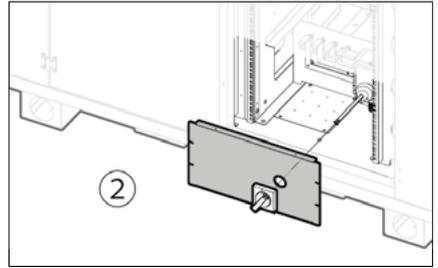

Fig. 8.4 - Front panel removal
3. Unscrew the 4x M6 screws and remove the front panel with the handle of the disconnect switch (Fig. 8.4).
16. Reposition the front panel with the handle of the disconnect and secure it with the 4x M6 screws (Fig. 8.4).